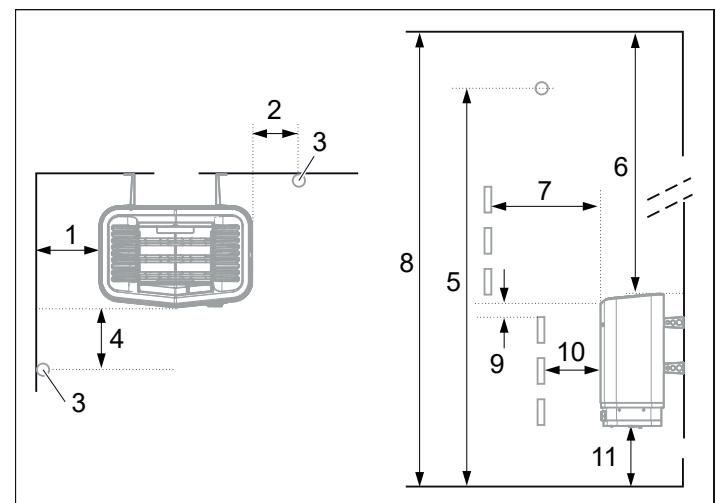
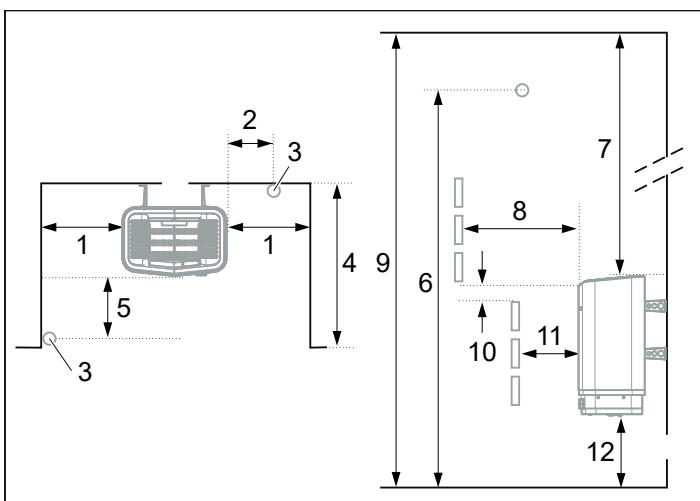

Figure 4: Positioning the heater - normal installation
Figure 6: Positioning the heater - recess installation
- Plan the sensor positioning (see Figure 4 and Figure 6).
- on the same wall as the door (or the side wall if very close to the door wall). The heater may also be placed in a recess (see Figure 6).
- Position the heater at a safe distance from the floor, side walls and interior fittings (see Figure 4).
Position the sensor according the picture (see Figure 4).
1. Position the heater at a safe distance from the floor, side walls and interior fittings (see Figure 6).
2. Position the sensor according the picture (see Figure 6).